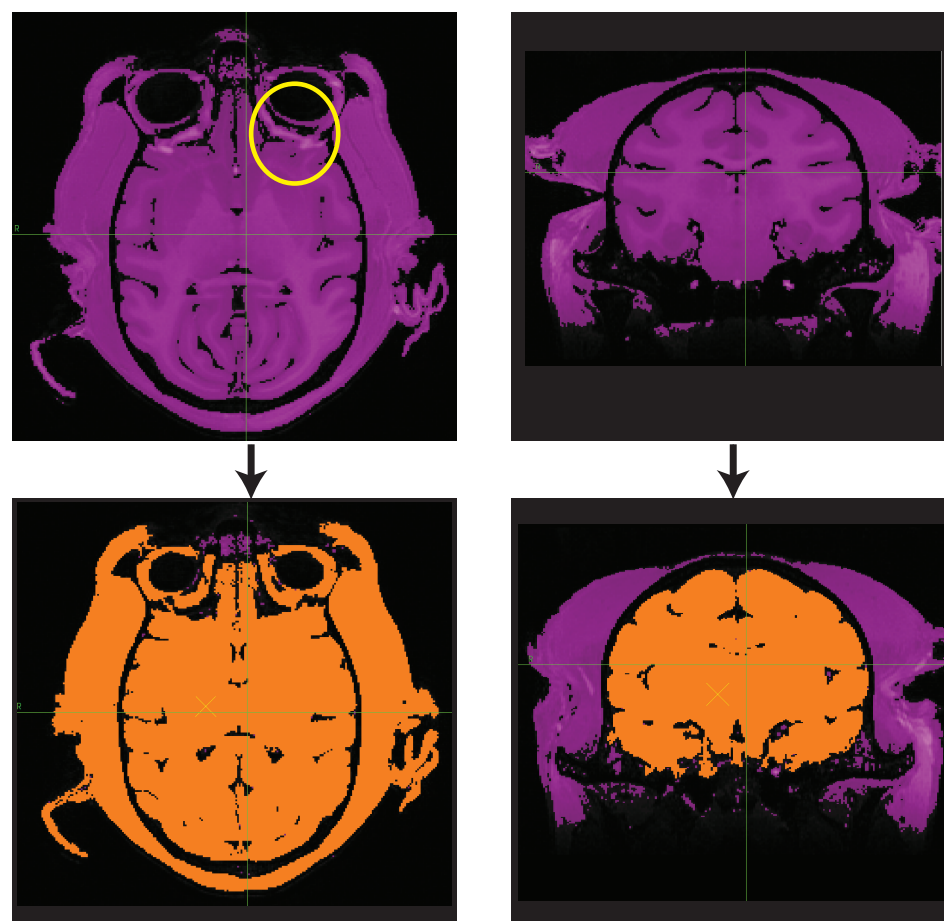

Fig. 9-9
- Decide which orientation to work in: Move the cursor around the brain by clicking in the smaller 3 orthogonal views on the right side. The goal here is to decide which orientation (usually transverse or coronal) will be the best ones to isolate the brain with a minimum of “bleed”. Bleed is when unwanted structures are selected by the seed tool because they also lie between the lower and upper intensity thresholds used for the brain, and are connected to the brain (e.g. optic track). Look at the brain in the transverse and coronal views to try to decide which orientation will have the most slices in which the brain is well isolated. Your choice of orientation may also be dictated by how homogeneous your images are. If for example, the front of the brain is noticeably darker than the rest, then it will be easier to use coronal images to isolate the brain because each slice will be relatively more uniform than any transverse slice. No orientation will isolate the brain completely for all slices, but one might have more good slices than another. For example, in the transverse orientation, the optic nerves are sources of unwanted bleed, while in the coronal plane, the marrow of the skull may be a source of bleed (see Fig. 9-9).
- Select the seed tool, and drop a seed in the brain (see Fig. 9-9, right column).